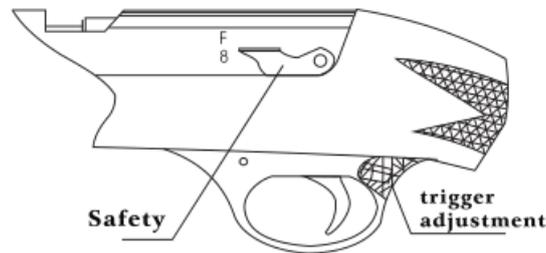

Fig.1
5.1. Trigger force can be adjusted by screwing the inner hexagon screw. (Fig.1) Screw in CW direction, the force will be stronger. Otherwise, the force will be reduced.